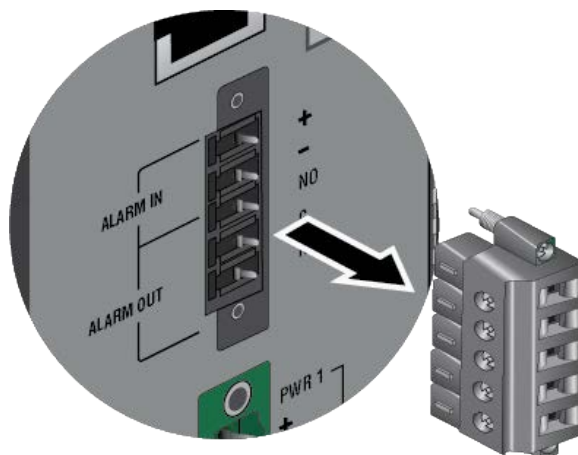

Figure 57. Removing the ALARM IN / ALARM OUT Plug
5. Remove the ALARM IN / ALARM OUT plug. Refer to Figure 57.